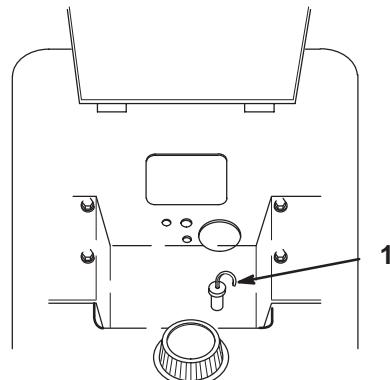

Figure 37
3. Clean around the transaxle dipstick (Fig. 37) so dirt cannot fall into the filler hole and damage the transaxle.
4. Pull out the dipstick and wipe the metal end clean (Fig. 37).
5. Slide the dipstick fully into the filler tube (Fig. 24). Pull the dipstick out and look at the metal end. When transaxle is cold oil should be at the full line on the dipstick (Fig. 37).